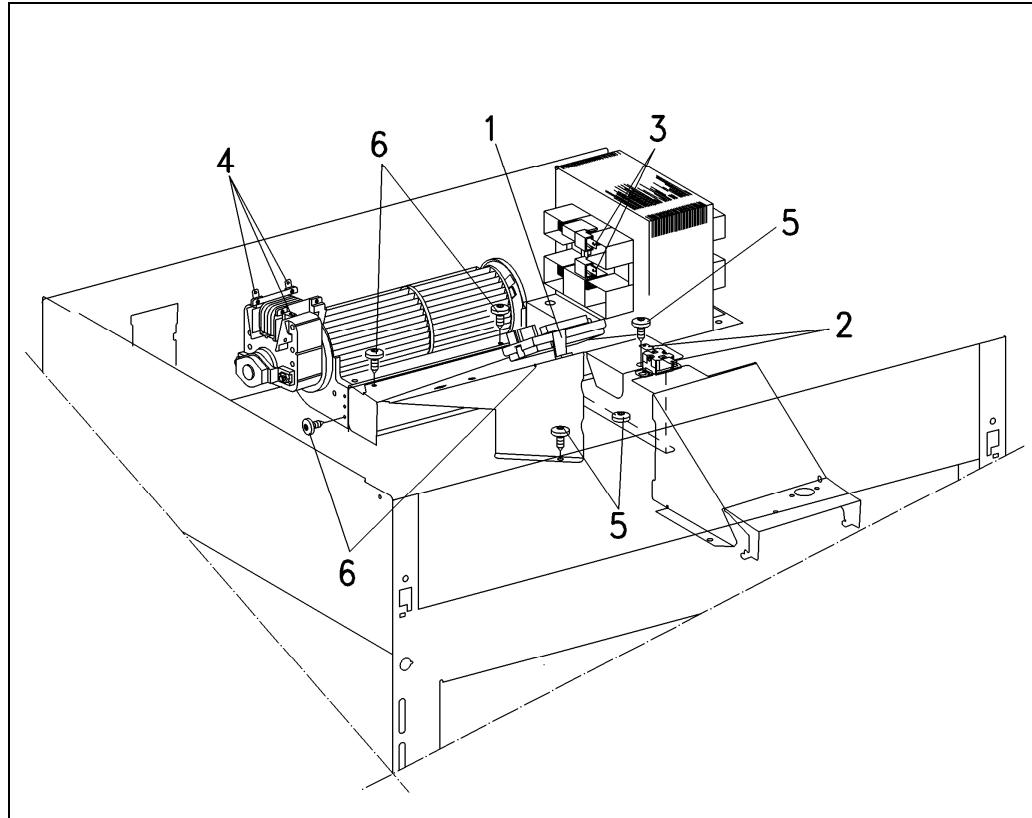

Figure 012-5: Rear Air Duct Removal
3. Remove the EV790 electronic module (3N1) (Figure 012-5, Item 1).
5. Disconnect the magnetron connections (Figure 012-5, Item 2).
6. Disconnect the high-voltage transformer connections (Figure 012-5, Item 3).
7. Disconnect the cooling fan connections (Figure 012-5, Item 4).
8. Remove the screws securing the rear air duct (Figure 012-5, Item 5).
4. Remove the screws securing the cooling fan (Figure 012-5, Item 6).